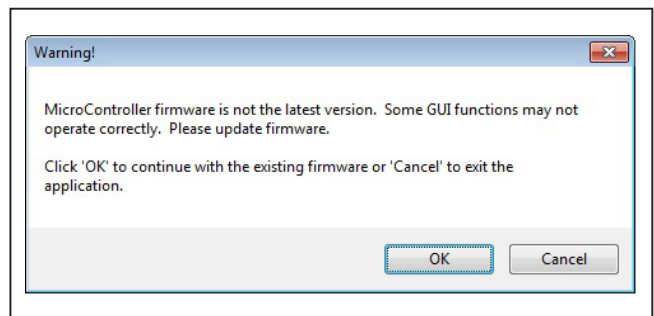

Figure 3. MAXSerDesEV-N EV Kit Software: Warning! (Microcontroller Firmware is Not the Latest Version)
- 14) When an operating Nuvoton microcontroller is found, the GUI checks the firmware version in the microcontroller and prompts the user to update. Press **OK** to continue working, or press **Cancel** to stop the applications (Figure 3).